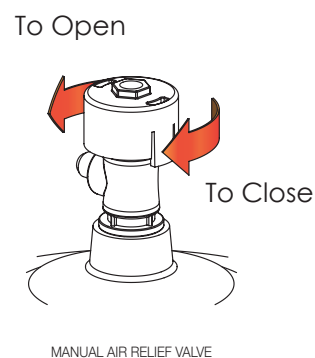

Figure 8
3. The Manual Air Relief Valve must be placed in the OPEN position. (See Fig 8)